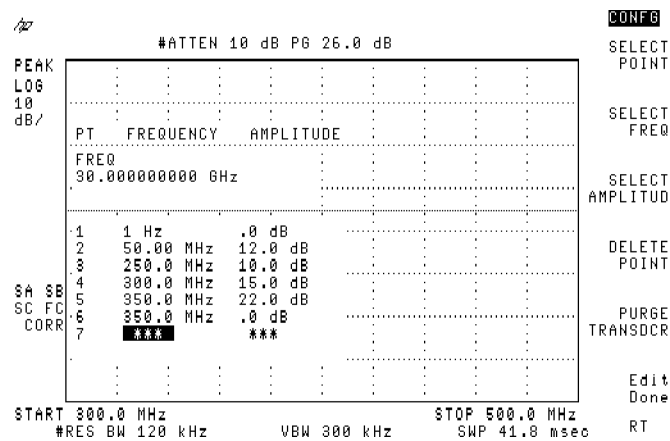

Figure 3-87. Completed Amplitude-Correction Table
- SELECT AMPLITUDE 0 **dB**. See Figure 3-87.